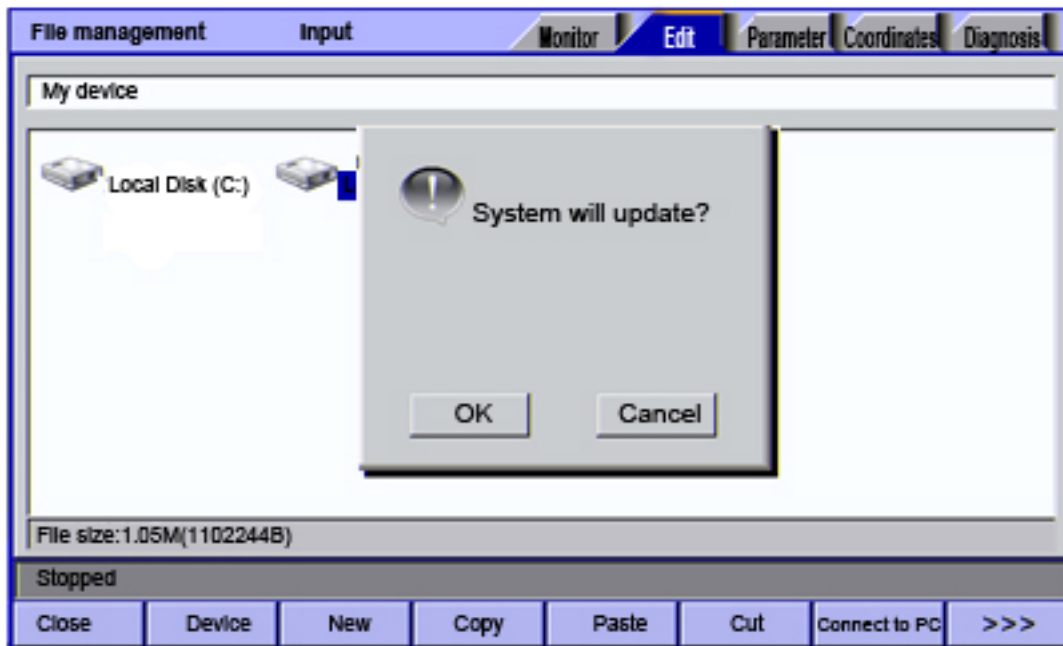

Fig. 9-2-2
- (3) Insert the USB disk, select the USB disk symbol in the root directory; after reading successfully, the system enters the USB directory automatically;
- (5) Move cursor to the upgrade file ADTROM.BIN, select [Copy] to pop up a prompt window as shown in Fig. 9-2-2, and press [EOB] to update; if there is no prompt window, please check the file name is valid.